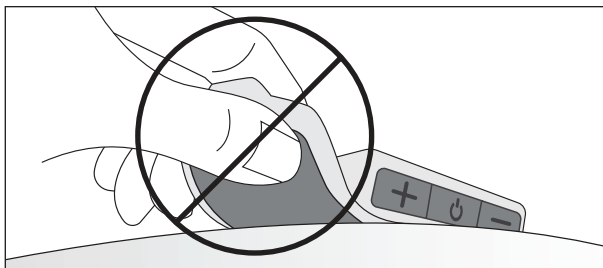

Figure 8-8: Do not grasp the gel electrodes.
**⚠ WARNING:** Do not grasp the gel pads on the back of the electrode. **See Figure 8-8.** If stimulation is not turned off and the gel pads are touched, a tingling sensation could occur.